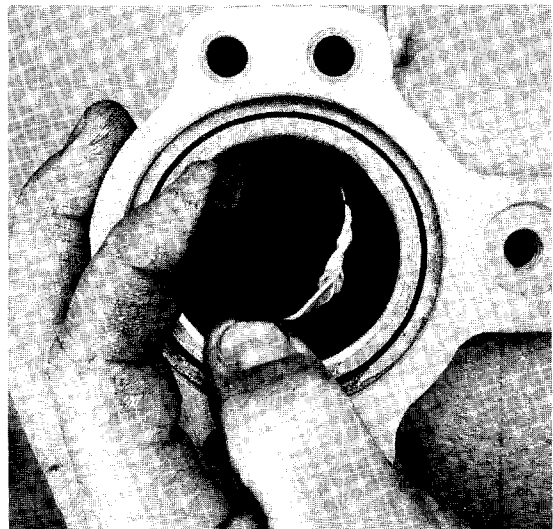

Fig. 22
15. At this stage, with a slight push at the bottom flange of the HYDRATUBE guide the nose of the HYDRATUBE to the center and out the top hole in the housing (Figure 22).